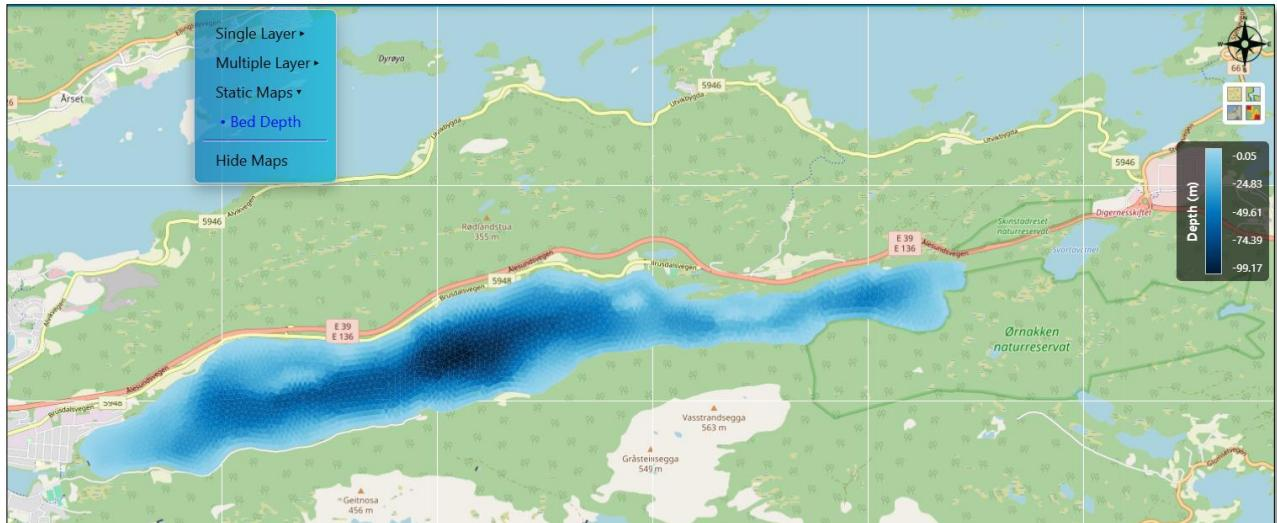

Figure 4.28. A bed depth map
- ❖ *Static Map:* This option allows the user to visualize a static map. One example of a bed depth map is shown in **Figure 4.28**.